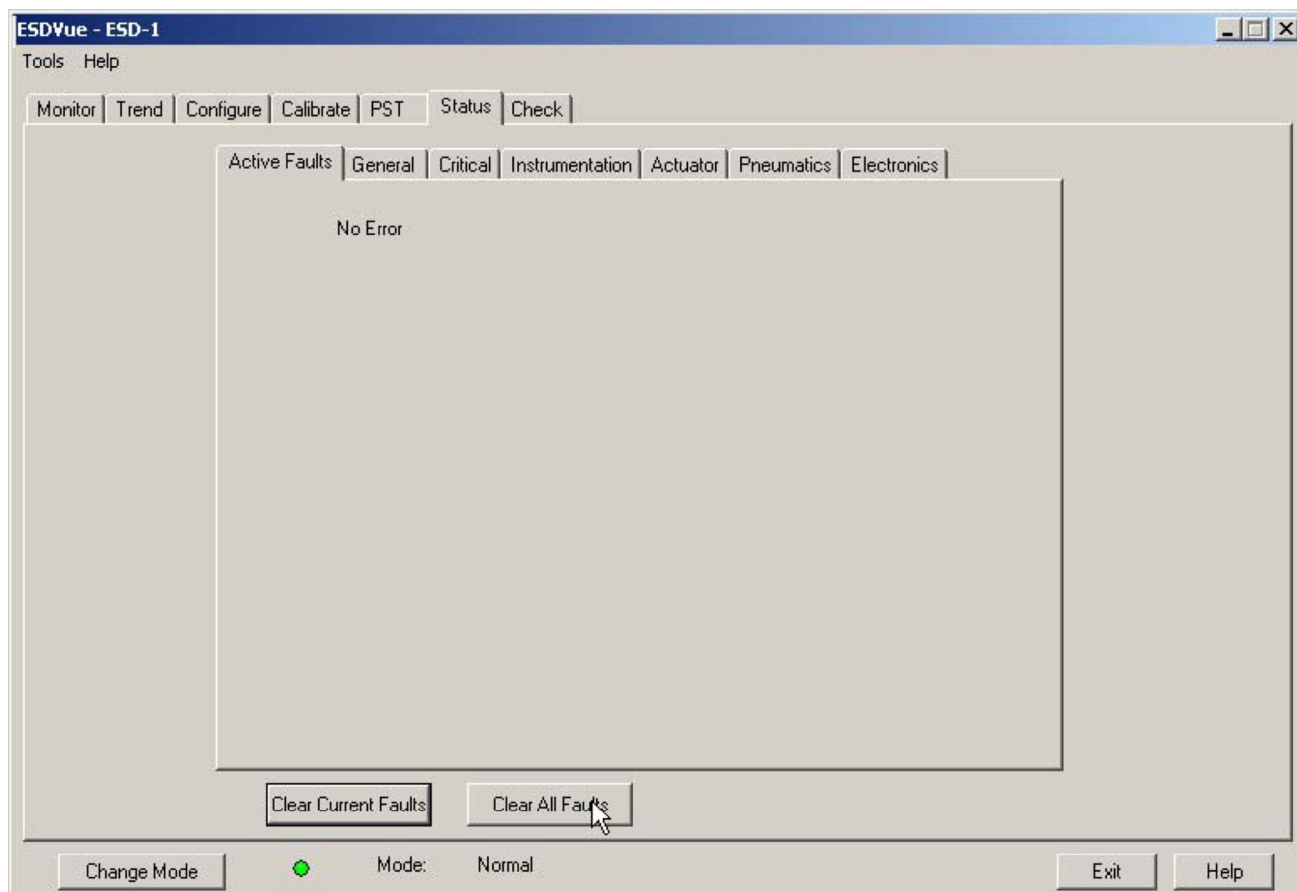

Figure 311 - Executing Clearing All Faults
- Click **Clear All Faults** (*Figure 311*).